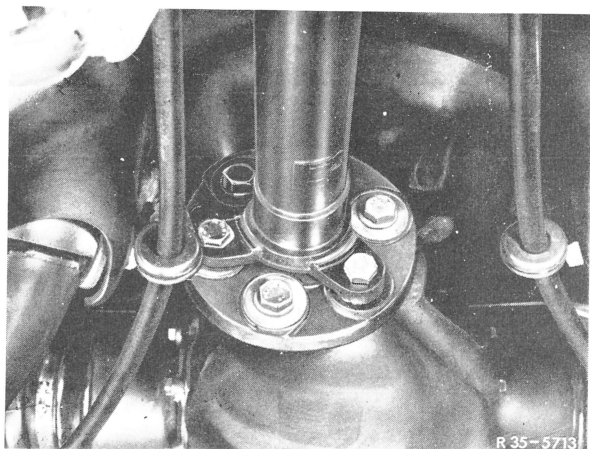

Fig. 2
- 7 Unflange propeller shaft at rear and push forward out of centering (Fig. 2).
- 21 Flange-on propeller shaft (Fig. 2).